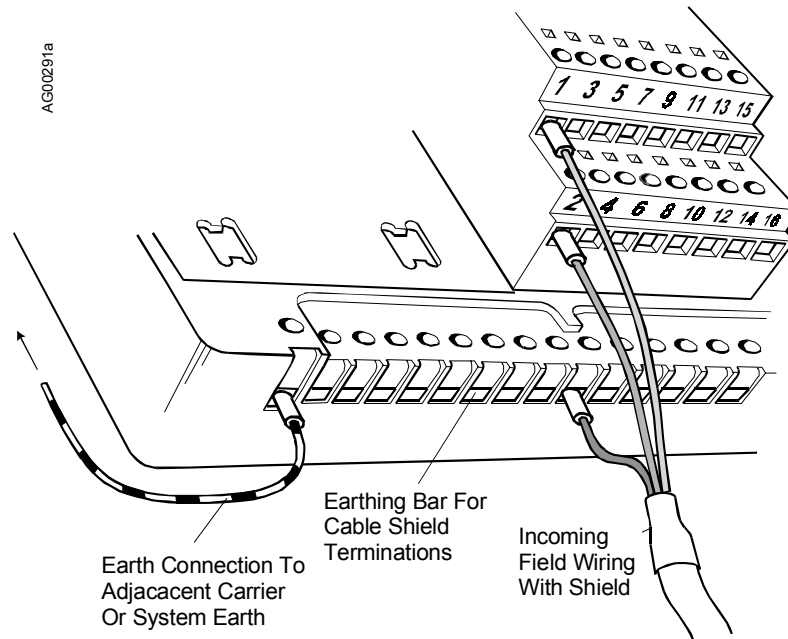

FIGURE 2 Typical i/o Cable Connection Method
3. Prepare the conductors; see Figure 2. Insert each conductor and tighten the screw. Do not over tighten.